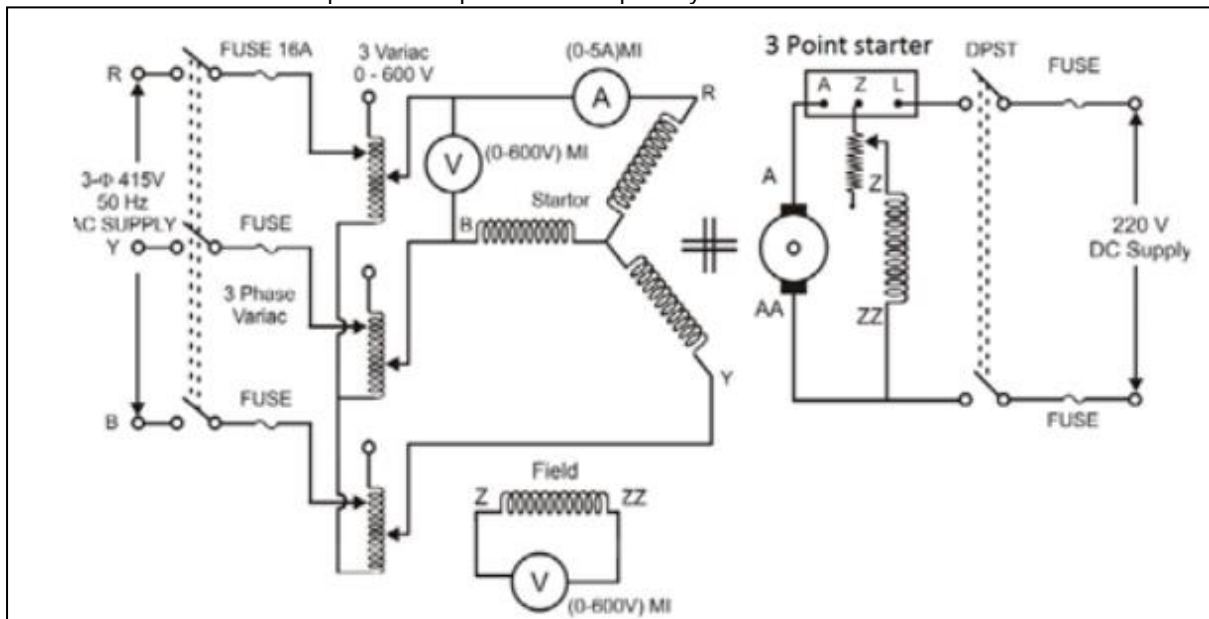

Figure 11 - SLIP TEST ON THREE PHASE SALIENT POLE SYNCHRONOUS MOTOR
1. Calculate the direct axis reactance (X_d) by calculating min voltage and max current from Figure 11.